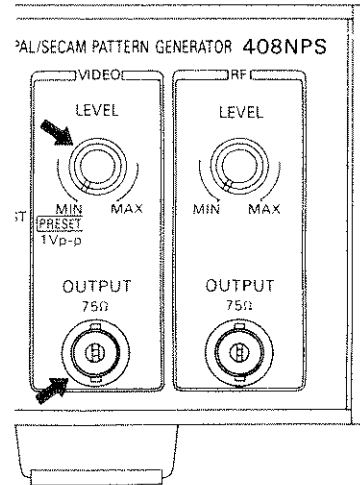

Figure 4.14
4.4 Level Settings for Luminance, Chroma, Burst, and Sync Signal (See Figure 4.14 and 4.15)